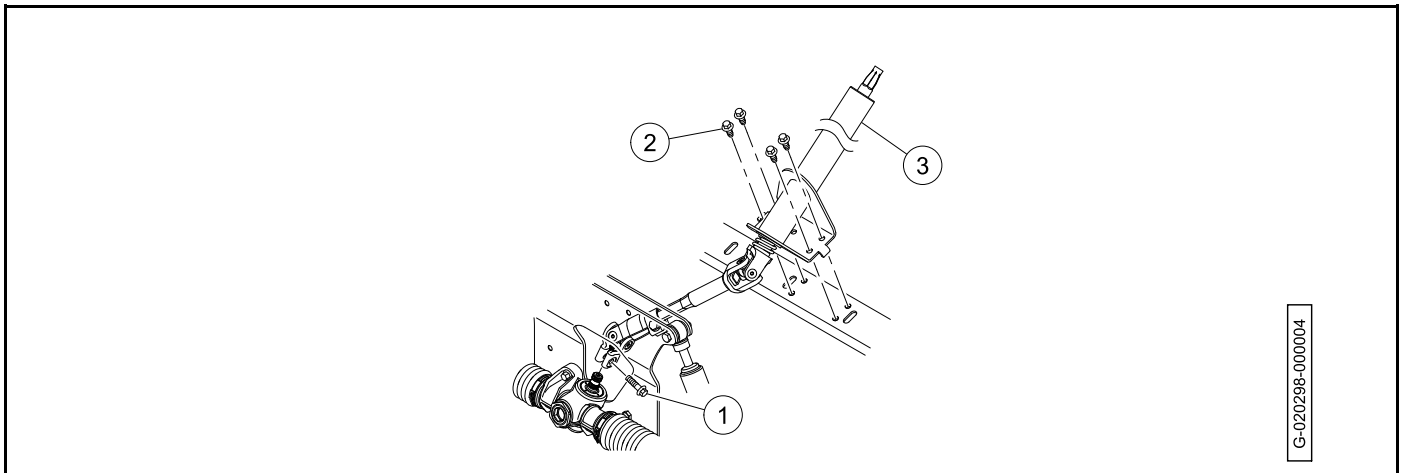

Figure 7-3 Steering Column Removal
5. Remove the bolt (1) (**Figure 7-3**).
6. Remove the bolts (2).
7. Remove the steering column (3) from the vehicle.